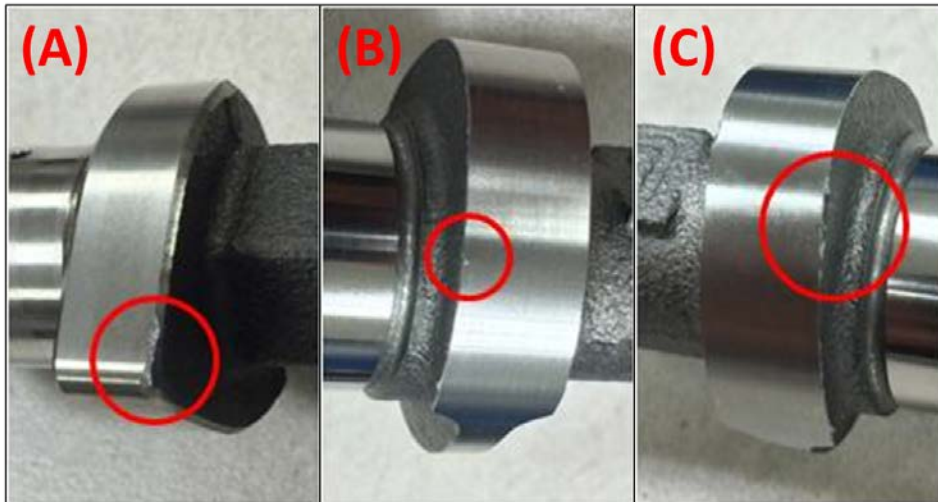

Figure 12 - (A) Grinding Damage, (B) Pitting and (C) Shipping Damage
- 8.2.1. Examples of such defects or damage are shown in Figure 12.